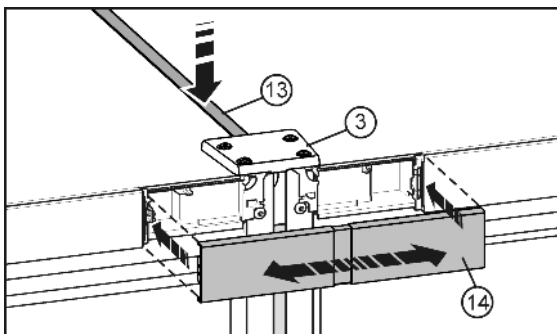

Fig. 10
- ▶ On the top of the appliances, press the short strip Fig. 10 (13) into the gap. Make sure the front edge of the strip is flush with the joining plate Fig. 10 (3).
- ▶ Clip the cover Fig. 10 (14) over the gap between the two control panel covers. Make sure the side edges of the cover are flush with the control panel covers. To enable this, the cover is expandable.